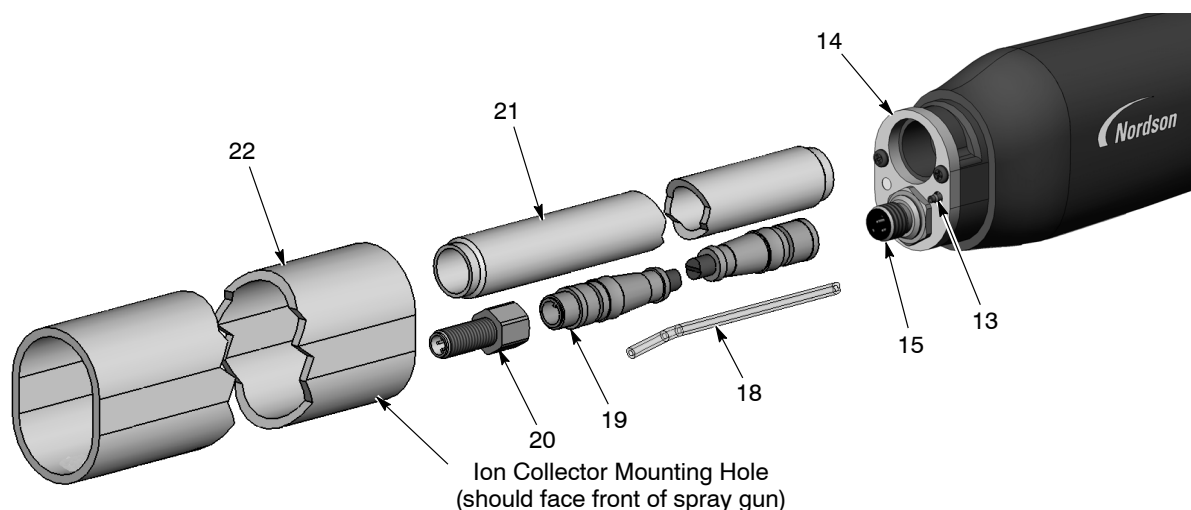
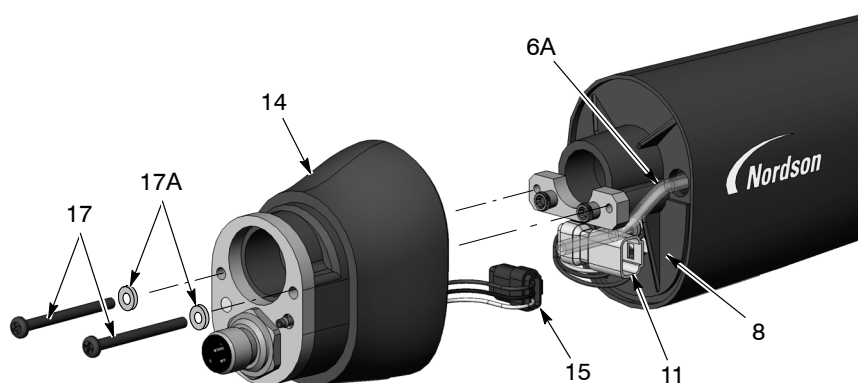
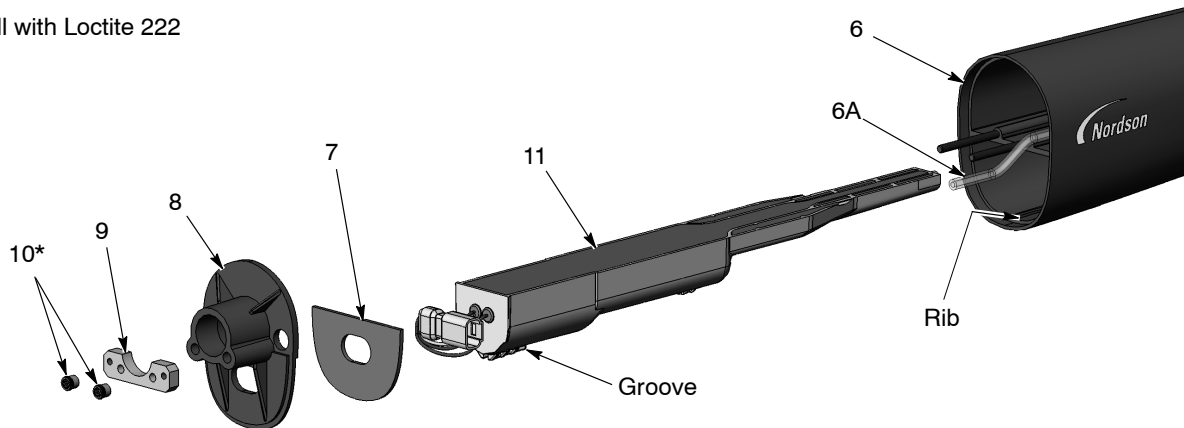

Figure 7-9 Tube-Mount Gun Disassembly 2 of 5
Figure 7-10 Tube-Mount Spray Gun Disassembly 3 of 5
Figure 7-11 Tube-Mount Spray Gun Disassembly 4 of 5
7. See Figure 7-9. Pull the mounting tube (22) off the rear body assembly (14) and over the clamping tube (21).
9. Disconnect the extension cable (19) from the receptacle harness (15).
10. Disconnect the clear 4-mm air tubing (18) from the barbed fitting (13).
11. If you are replacing the extension cable, remove the cable receptacle (20). If not, you can leave them connected.
12. See Figure 7-10. Remove the two socket-head screws (17) and lock washers (17A) from the rear spray gun body (14).
13. Carefully pull the rear spray gun body far enough off the bulkhead (8) to disconnect the power supply harness (11) from the receptacle harness (15), and the filter assembly tubing (6A) from the barbed fitting inside the rear body.
14. See Figure 7-11. With a  $\frac{1}{8}$ -in. hex key, remove the two Allen nuts (10) and screw plate (9) from the bulkhead (8). Then remove the bulkhead from the spray gun body (6), feeding the power supply harness through the bulkhead.
15. Slide the power supply (11) out of the spray gun body.
17. The gasket (7) is attached to the bulkhead with a pressure-sensitive adhesive. If the gasket is damaged, replace it with a new one.
1. See Figure 7-11. Install the power supply (11) into the spray gun body (6), making sure the spray gun body rib fits into the groove on the power supply. Seat the power supply firmly into the spray gun body.
2. Feed the power supply harness through the bulkhead (8), then install the bulkhead and screw plate (9) over the spray gun body studs. Apply Loctite 222 thread-locking adhesive to the Allen nuts (10) and thread them onto the studs. Torque the nuts to 0.45 N•m (64 inch-ounces) with a 1/8-in. hex key.
3. See Figure 7-10. Connect the receptacle harness (15) to the power supply harness (11). Tuck the harness connectors (11, 15) into the rear body assembly in the positions shown.
4. Connect the filter assembly tubing (6A) to the barbed fitting on the inside of the rear body. Feed any extra clear air tubing into the spray gun body, then install the rear body onto the bulkhead with the screws (17) and lock washers (17A).
5. See Figure 7-9. Screw the clamping tube (21) into the rear body (14).
6. Connect the extension cable (19) to the receptacle harness in the rear body assembly.
7. Connect the clear 4-mm tubing (18) to the barbed fitting on the rear body assembly.
8. Orient the mounting tube (22) with the ion collector hole facing towards the front of the spray gun.
9. See Figure 7-9. Connect the extension cable (19) to the receptacle (20) in the end cap (23).
11. Install the end cap on the mounting tube, feeding the clamping tube (21) and clear 4-mm tubing (18) through the end cap.
12. Secure the cable receptacle (20) to the end cap with the lock washer and nut.
13. Thread the clamping tube nut (24) onto the clamping tube and tighten securely.
14. Install the union (25) on the clear 4-mm tubing.